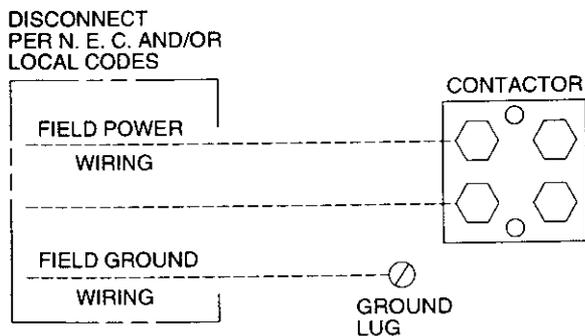

Fig. 4—Line Power Connections
**CONNECT GROUND AND POWER WIRES** — Connect ground wire to ground connection in control box for safety. Connect power wiring to contactor as shown in Fig. 4.